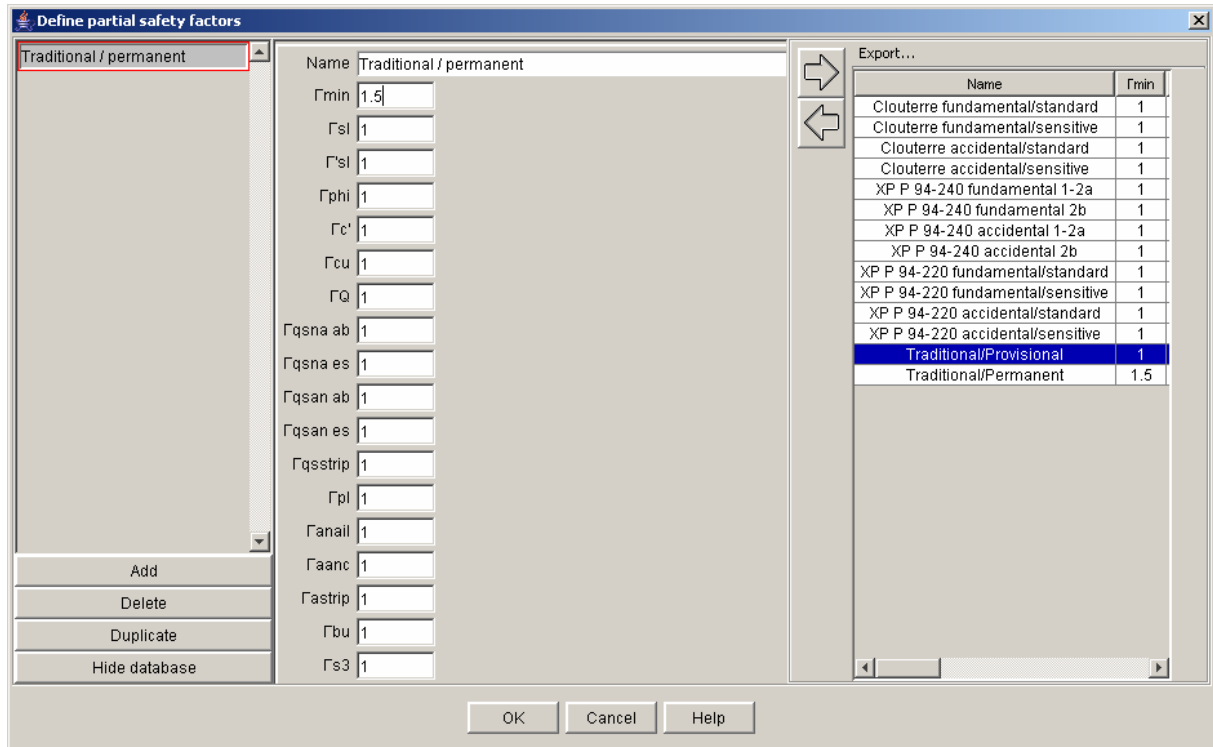

Figure 63: definition of partial safety factors
- For the default partial safety factors, click on the button [Safety factor wizard]. In the window that appears, click on [Add], then define the set of partial safety factors as shown on Figure 63.